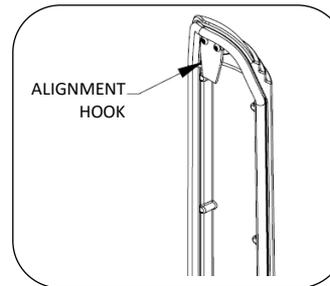

Fig. 6a – Cabinet cover detail
2. Slide cabinet cover down so that alignment hook (see Fig. 6a) is inside the door mount bracket on the light pole.